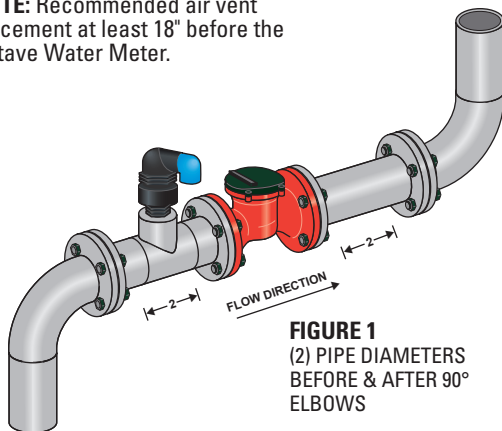

FIGURE 1
- Two (2) diameters of straight pipe are required when installing a 90° elbow before or after the meter. (See Figure 1)